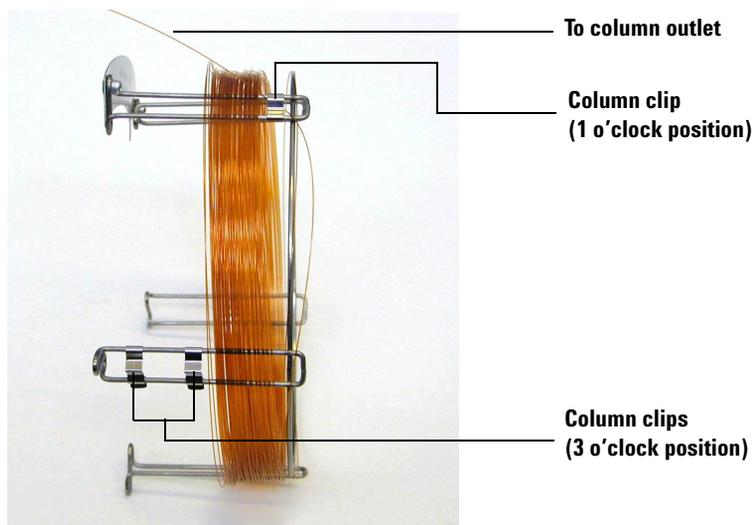

Figure 10 Column fed through 1 o'clock position.
- 4 Feed the outlet side of the column through the 1 o'clock positioned clip so that the column outlet is pointing toward the front of the column cage. See Figure 10.